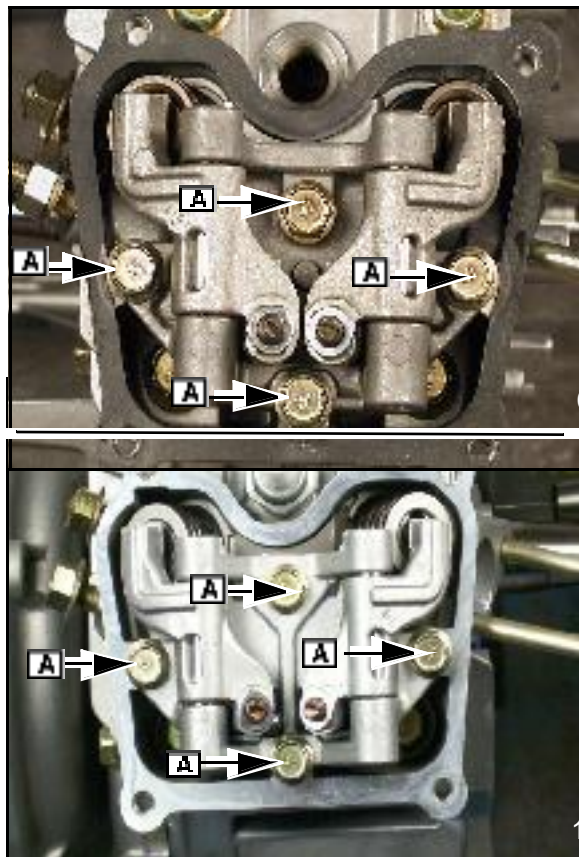

Fig. 1
1. Remove the four bolts ([A] Fig. 1) that mount the rocker arm assembly to the cylinder head.